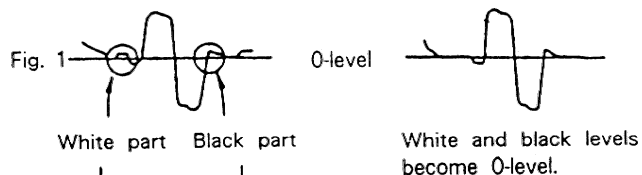

Fig. 1
- Adjust L106 until white and black part of TP6 wave become 0 – level.(Fig. 1)